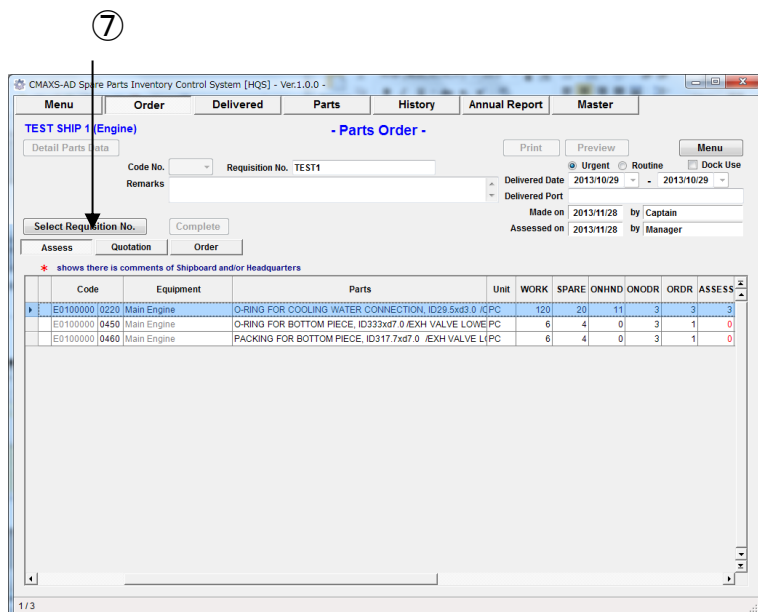

Fig.6-5 Parts Order Screen
- (6) "Parts Order Screen"(Fig.6-5) with import items is displayed.
- (7) If you want to see other Requisition No data,
- (8) Select subject and [OK], then other data are displayed on Parts Order Screen"(Fig.6-5).